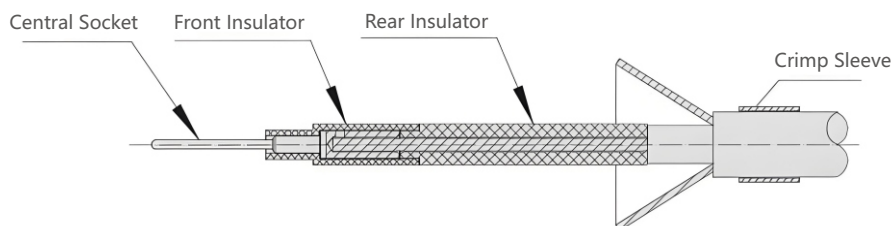

Figure 1.12
- ⑤As shown in Figure 1.12, install the front insulator onto the central pin, and make sure the contact area of the two insulators is tightly abutted.